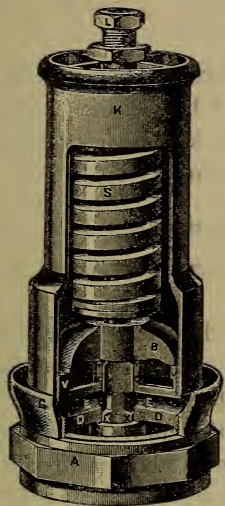

Fig. 102. Crosby Locomotive Pop Safety-valve.
A. The valve rests on two flat ring-shaped seats lying in the same plane and forming part of the shell, which is in two parts, an inner and an outer cylindrical chamber, connected by hollow horizontal radial arms between which the steam passes, acting on that part of the valve which shows above and between the two valve-seats. (See Fig. 102.)